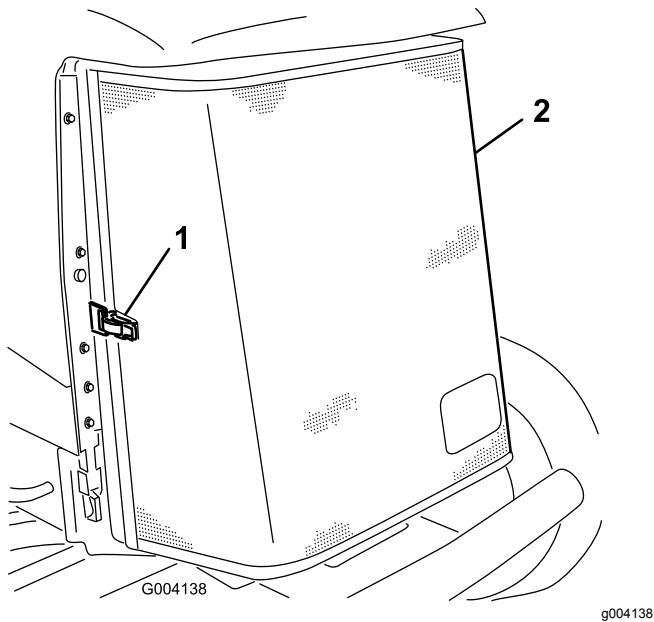

Figure 81
3. Unlatch the clamp and pivot open the rear screen (Figure 81).